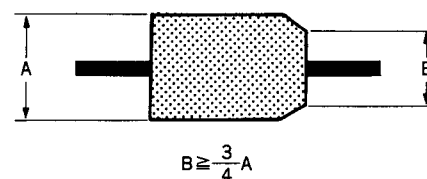

Fig. 7
2. Play back the cassette tape, check that the RF waveform (CH 1 and CH 2) at the exit side meet the specification as shown in the fig.7. If not, adjust the height of No.4 Guide again within the specification as shown in the fig.6. Perform the steps 1 and 2 and check that it meet the specification as shown in the fig.7.
- (9) After adjustment, perform the Check After Adjustment referring to Section 6-6.
- (10) Smear locking compound to the lock screw, zenith screw and adjustment nuts of No.4 Guide and No.5 Guide.